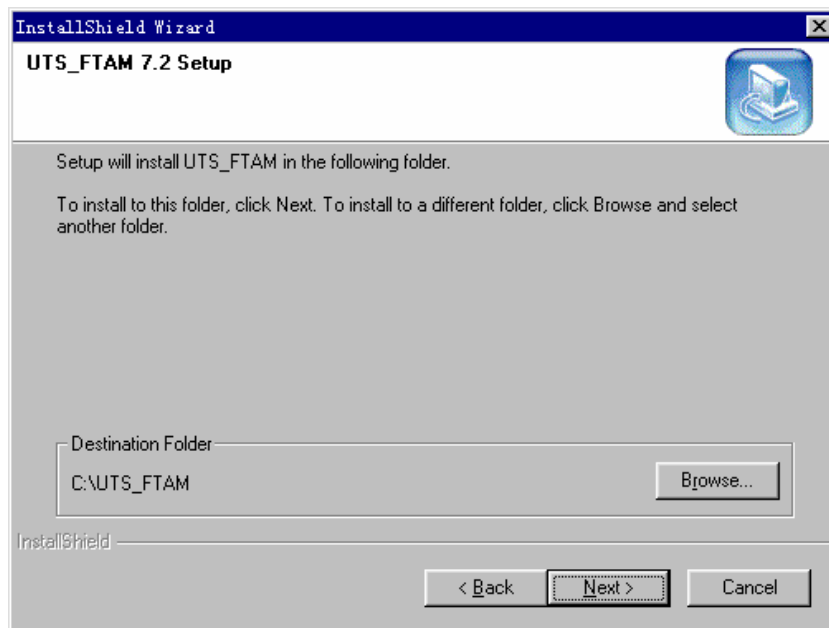

Figure 2-58 Selecting destination folder
- 2) After the InstallShield Wizard is prepared, the [InstallShield Wizard] dialog box is displayed, and you are asked whether to install the UTS_FTAM 7.2. Click <Next>. You are prompted to select a destination folder, as shown in Figure 2-58.